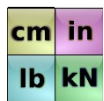

Figure 3-13 Changing units in a spinbox
- **Units:** Prompt open unit window (Section 3.3.1.1) and change the default display of units in other windows and widgets. The specified units serve merely as the default displayed units in all input. In input fields and tables, the units can be changed on-the-fly by right-clicking containing input widget (see, for instance, Figure 3-13 and Figure 3-14) with the mouse. Upon selection of a new unit, existing value will be converted.